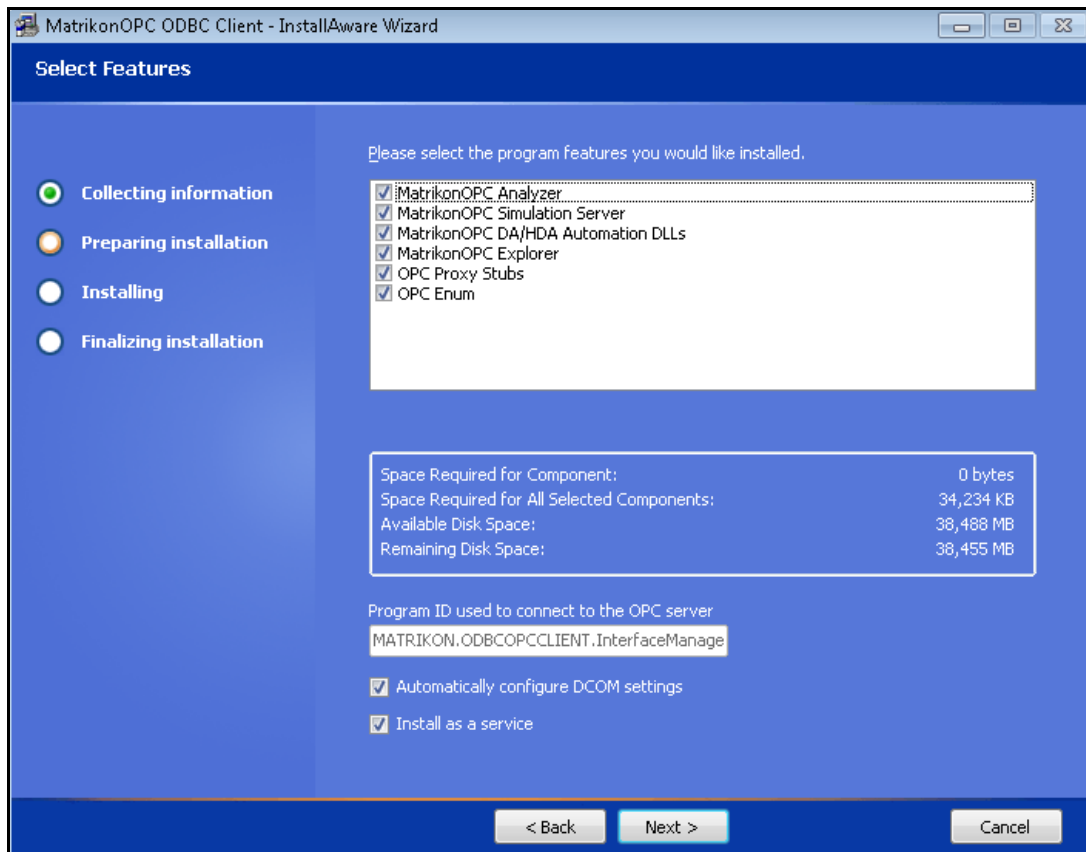

Figure 4 – Select Features screen
8. Select Custom Setup and Click on the **Next** button. The **Select Features** Screen (Figure 4) appears.